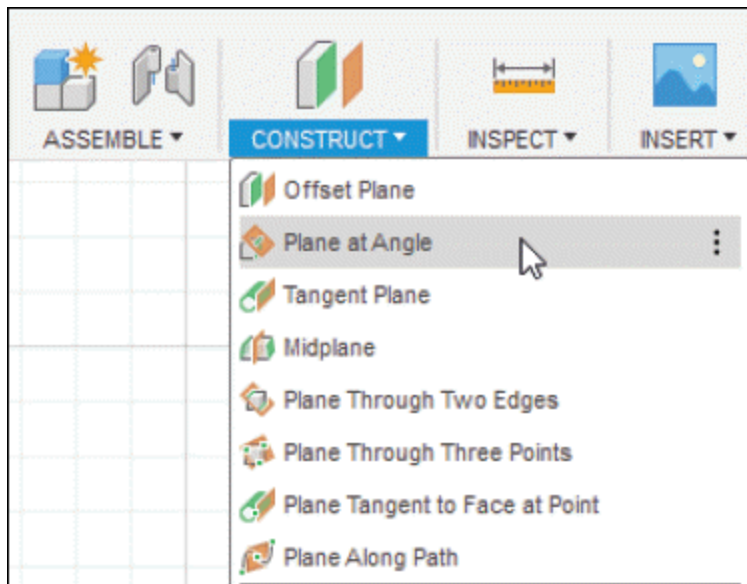
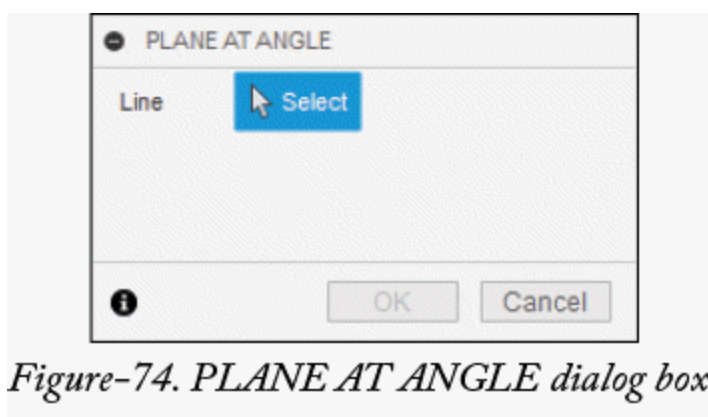

Figure-73. Plane at Angle tool
Figure-74. PLANE AT ANGLE dialog box
- Click on the **Plane at Angle** tool of **CONSTRUCT** drop-down from **Toolbar**; refer to Figure-73. The **PLANE AT ANGLE** dialog box will be displayed; refer to Figure-74.